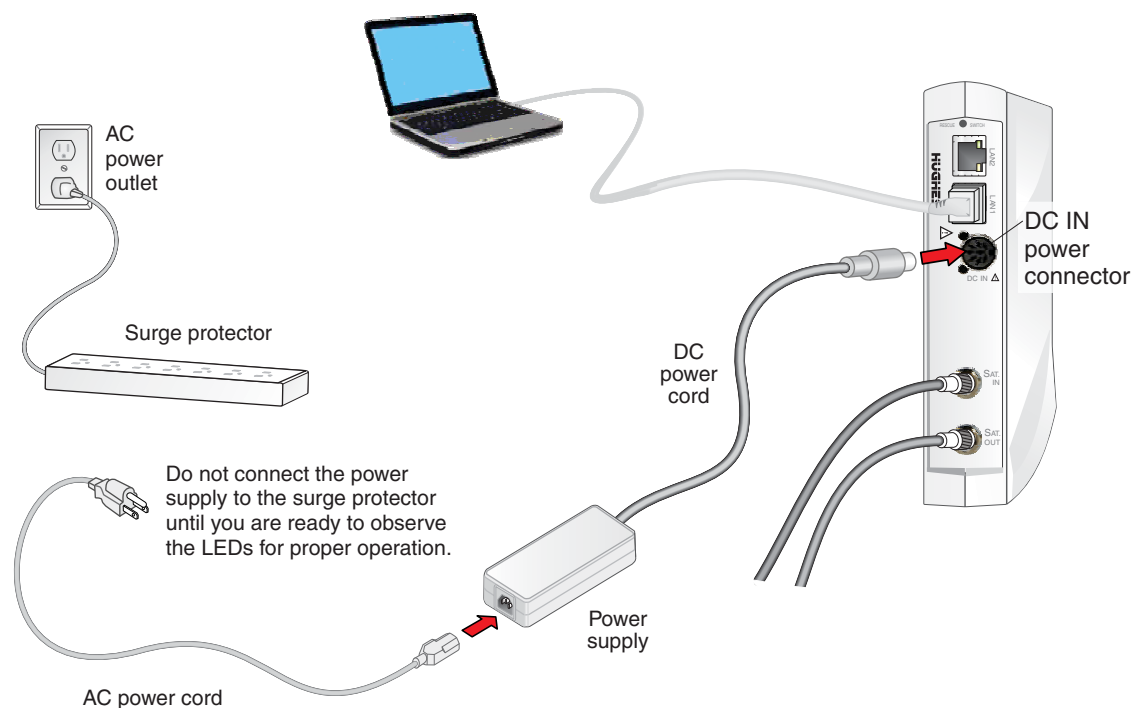

Figure 7: Connecting an AC power supply
2. Connect the DC power cord to the DC IN port on the router, as shown in Figure 7 on page 26.